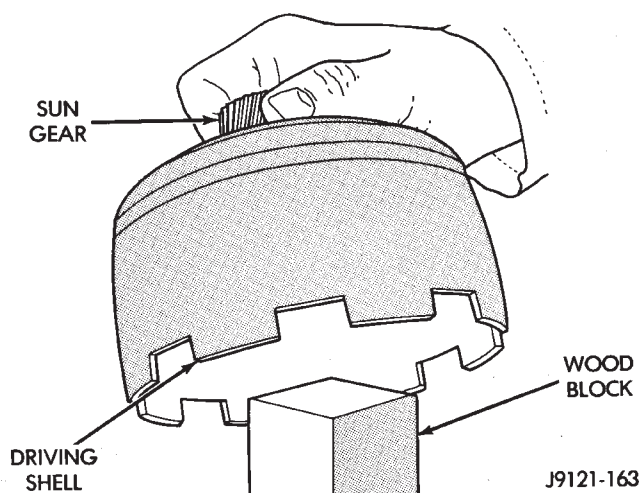

Fig. 234 Supporting Sun Gear On Wood Block
(10) Position wood block on bench and support sun gear on block (Fig. 234). This makes it easier to align and install sun gear lock ring. Keep wood block handy as it will also be used for geartrain end play check.